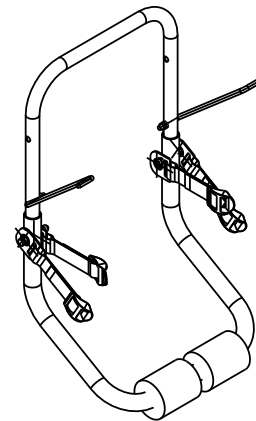

FIG. 2
- Thread the M6 locknut onto the screw and tighten using a wrench. Repeat on the other side. The main frame should appear as shown in Fig. 2.